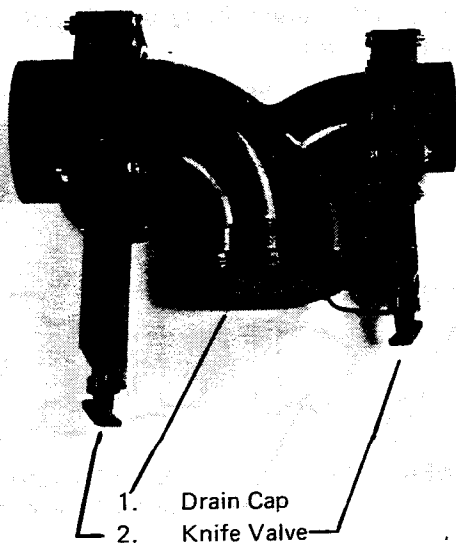

FIGURE 8 – TYPICAL WASTE WATER SYSTEM DRAIN WITH DUAL TANKS
3. Place a container under the drain outlet to catch any water in the drain if required, then remove the protective cap from the drain outlet by turning it firmly counterclockwise (see Figure 8).